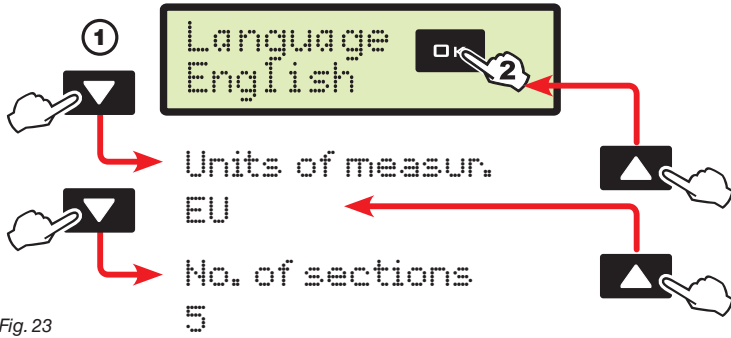

Fig. 23
- 1 Press the arrow keys in succession to move across the menu items. (▼ next item, ▲ previous item); the selected item will be displayed (Fig. 23).